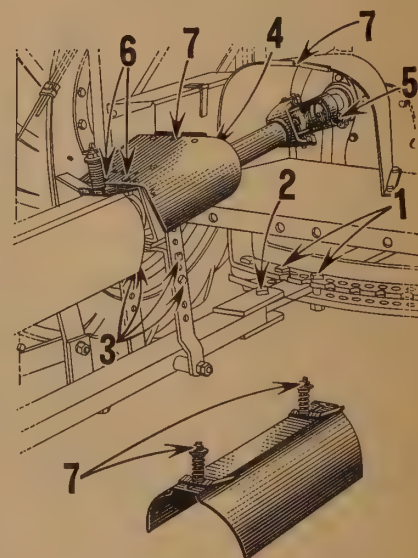

Fig. 35
1. (Fig. 35.) Set swinging drawbar in position shown and secure in place with bolts.
2. (Fig. 35.) Connect Binder to tractor drawbar as shown.
3. (Fig. 35.) Adjust height of power shaft front bearing to level power line as shown.
4. (Fig. 35.) Remove tape around key in front end of telescoping pipe for power drive. Remove cap screw, lugged lock washer and notched retaining washer from front end of telescoping pipe. Slide rear universal joint onto front end of telescoping pipe and replace notched retaining washer, lugged lock washer and cap screw. Be sure to fit bent lug on lock washer into notch in retaining washer and to bend remaining lugs on lock washer over head of cap screw.
5. (Fig. 35.) Slide front splined universal joint onto take-off shaft on tractor and secure in place with clamp bolt and cotter.
6. (Fig. 35.) Bolt power shaft shield to **rear** set of holes in power shaft front bearing housing.
7. (Fig. 35.) Attach universal joint and pipe connection shield to take-off shield on tractor and to shield on power shaft front bearing as shown.